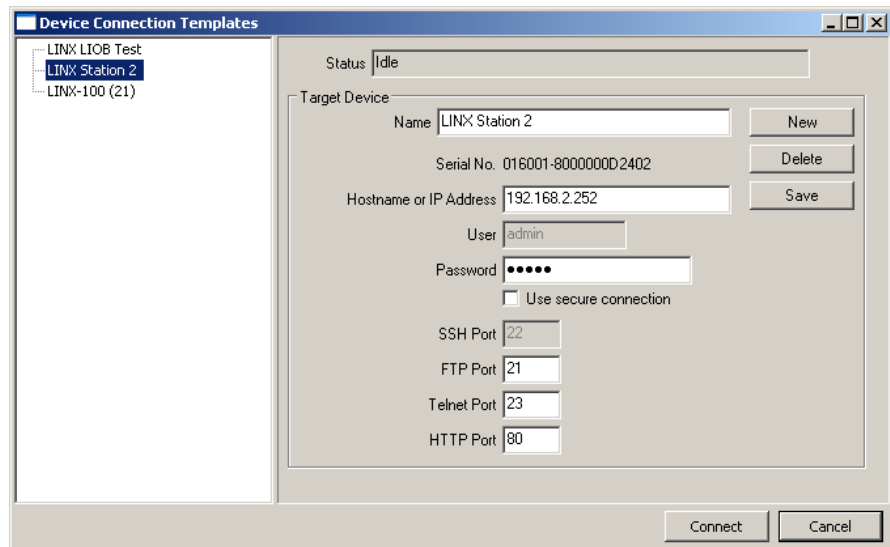

Figure 89: FTP connection dialog.
2. Select the menu: **Connection** → **Connect via FTP**. This opens the FTP connection dialog as shown in Figure 89.